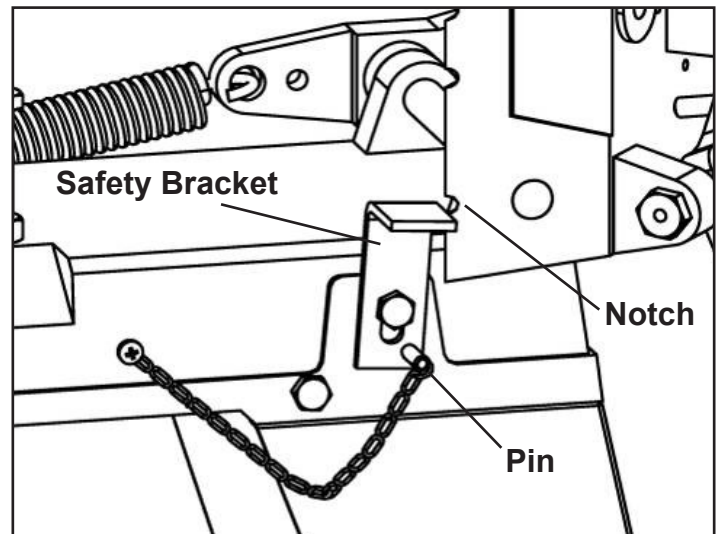

FIGURE 26
3. Lock the safety bracket in place with the supplied pin (on front of saw) to keep the saw head from falling. SEE Figure 26.